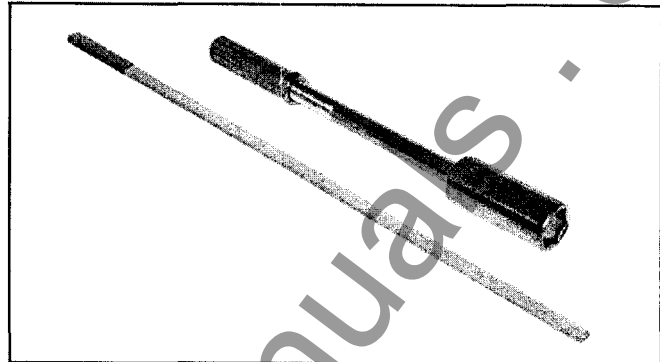

Figure 3-1 Typical Vacuum Replacement Tools and Accessories
Type AM-VR circuit breakers are subjected to complete factory production tests and inspection before being packed. They are shipped in packages designed to provide maximum protection to the equipment during shipment and storage and at the same time to provide convenient handling. Accessories such as the maintenance tool are shipped with the breaker (Figure 3-1).
**Maintenance Tool:** This tool is used to manually charge the closing spring. One maintenance handle is provided with each vacuum unit replacement breaker. (Style# 8064A02G01) (Figure 3-1)
**Test Position MOC Operator:** This device can be used to test the MOC operator in the breaker's test position. (Figure 3-1)